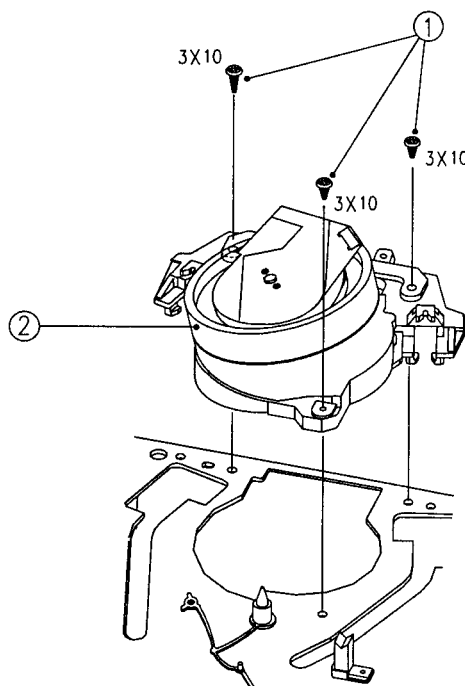

Fig.3-7 DRUM TOTAL ASS'Y & EARTH BRKT ASS'Y REMOVAL
3.3. DRUM ASS'Y/EARTH BRACKET ASS'Y REMOVAL (See Fig.3-7)
- Remove three screws ① fixing the DRUM TOTAL ASSEMBLY.
- Carefully lift the DRUM TOTAL ASSEMBLY ② from the DECK MECHANISM, taking care not to damage or touch the VIDEO HEAD.